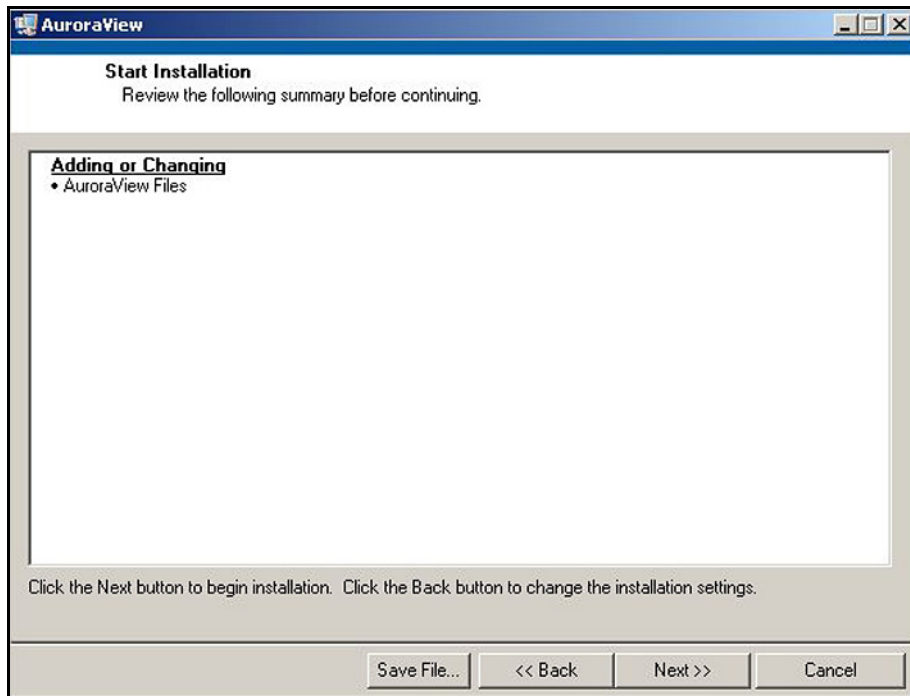

Figure 56: Starting the Installation
7. The next screen (see *Figure 56* below) provides instructions for initiating the installation. When ready, click Next to begin.